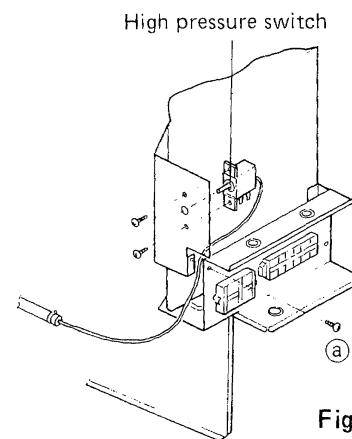

Fig. 15A
2. Loosen one screw ④ and remove the high pressure switch from the electrical component box carefully. Fig. 15A